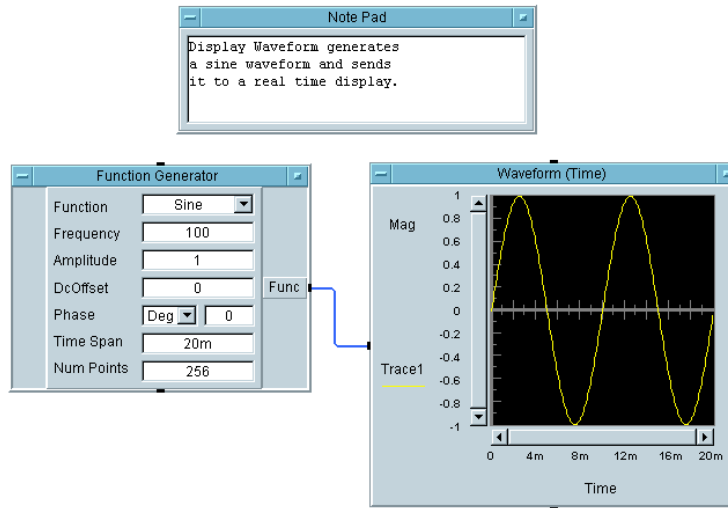

Figure 1-27. Changing the Function Field to Sine Wave
6. Continuing with the same example, click `Cosine` (or the arrow) in the `Function` field. A drop-down list of selections appears. Click `Sine` to select the Sine function as shown in Figure 1-27, noticing that the `Function` field has changed from `Cosine` to `Sine`.